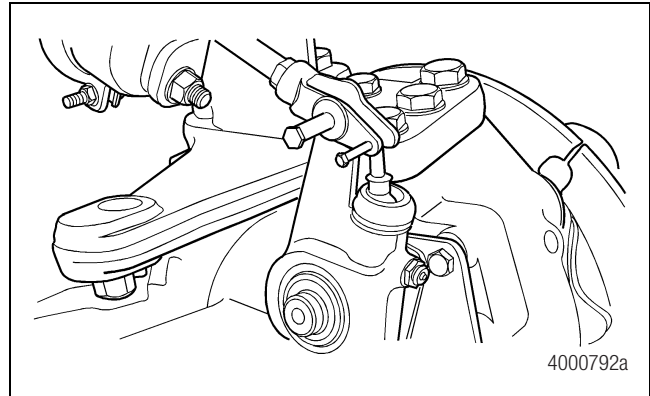

Figure 6.20
17. Install the pin and retainer that engages the push rod yoke and the slack adjuster plunger rod. Figure 6.20.